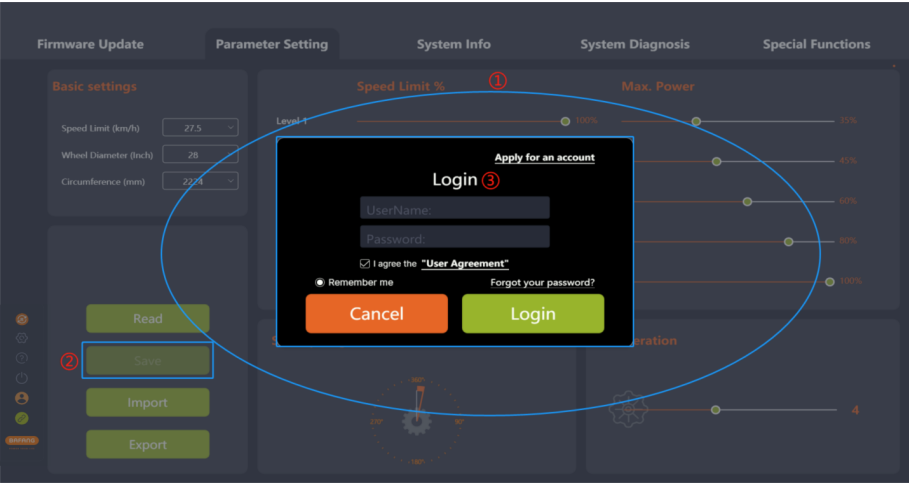

Fig 5-5 Login
- 3. If you are not logged in, the “Login” interface will pop up, prompting you to log in (Figure 5-5).
- 4. After logging in, you can set parameters (Figure 5-5).